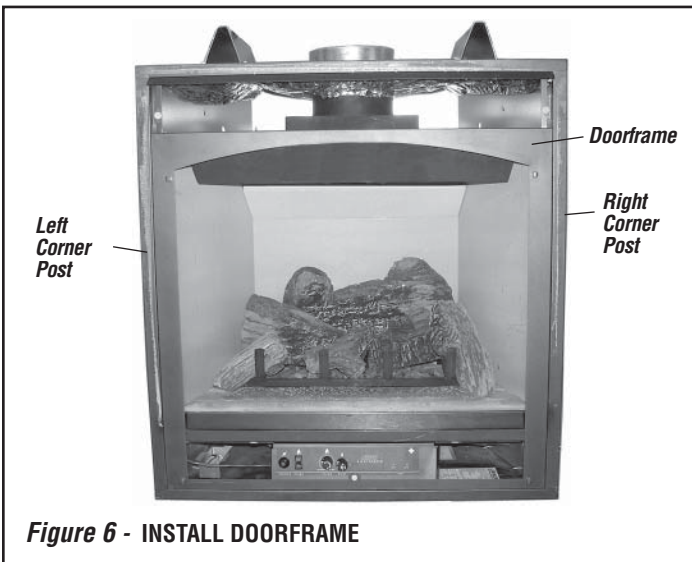

Figure 6 - INSTALL DOORFRAME
- Install Doorframe (see Figure 6)** - Remove the arched doorframe from packaging. Position the top of the doorframe above the top of the glass doorframe (centered and approximately 1" above the top of the glass doorframe). Slide down so that the hooks catch on the back of the doorframe slide between the sides of the glass door and the corner posts engaging into existing slots on fireplace.